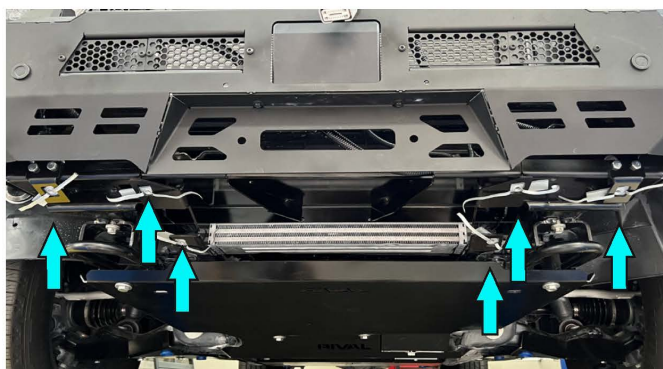

Fig.51
51. Install insert nuts M10 with cable (item S) into holes of brackets (item 24, 25, 30, 31) as shown in fig.51.